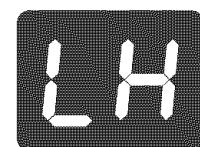

Fig. 9
2. Touch the  key pad located in the main control area. The associated display will show **LH** (low heat - Fig. 9) indicating that the Cooking Element is properly set to Warm & Hold. If no other key pads are pressed the control will activate the desired Cooking Element at the Warm & Hold setting.